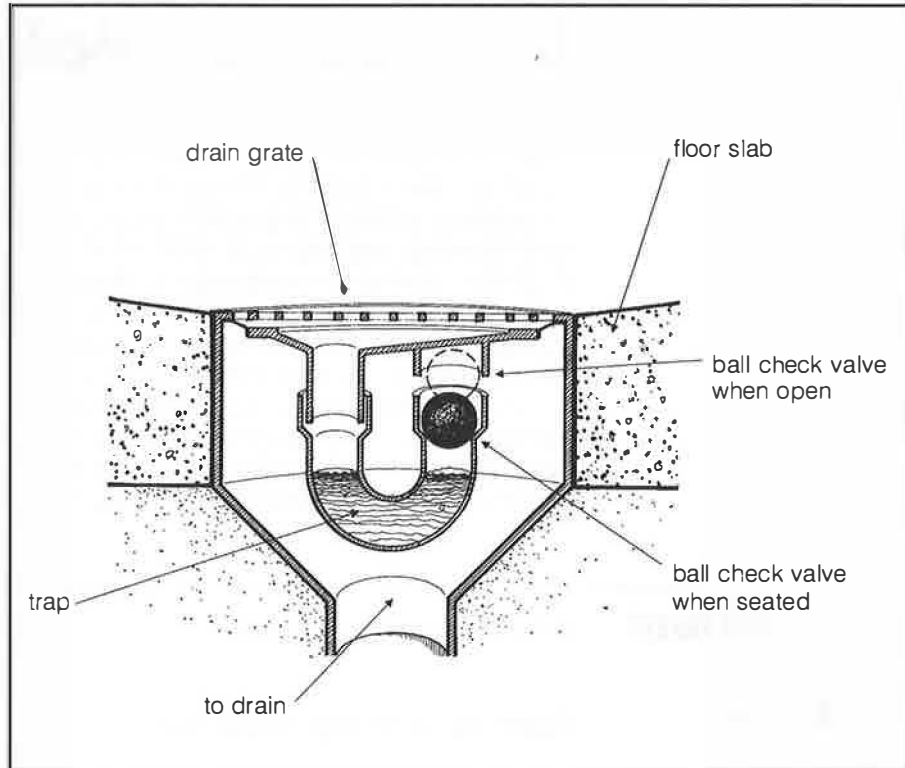

Fig. 3. Self-sealing floor drain
- Use self-sealing floor traps (*fig. 3*). This is especially important if the weeping tile connects to the floor drain above the trap.